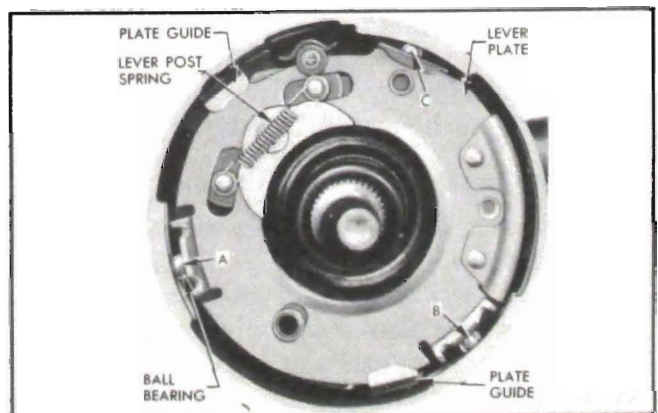

Figure 10-104—Signal Switch Lever Plate
5. Pry outward on the plate guides far enough to permit removal of the lever plate. Using a screwdriver to pry, remove ball bearing "A" (opposite lever), then bearing "B", and finally bearing "C." See figure 10-104.
before installing bearing "C." See figure 10-104.